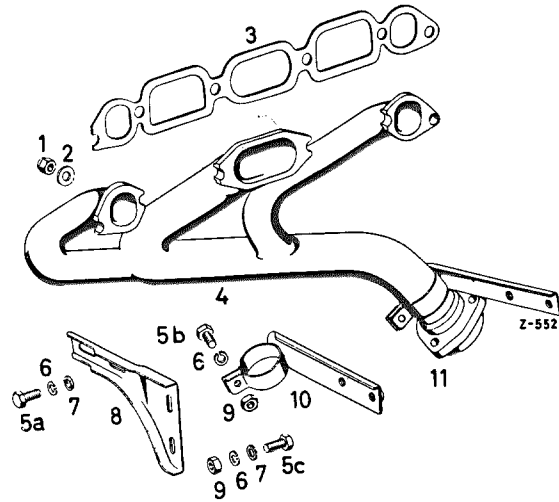

Fig. 01-4/19
2. Test gasket (3) for intake pipes and exhaust manifold. Damaged gaskets should be replaced. For this purpose, remove intake pipes (Fig. 01-4/19).
3. Hold exhaust manifold to cylinder head and tighten hexagon nuts. Tighten hexagon nuts on screw of three-hole flange (11) and hexagon screw (5 a) which hold bracket (10) to support (8).